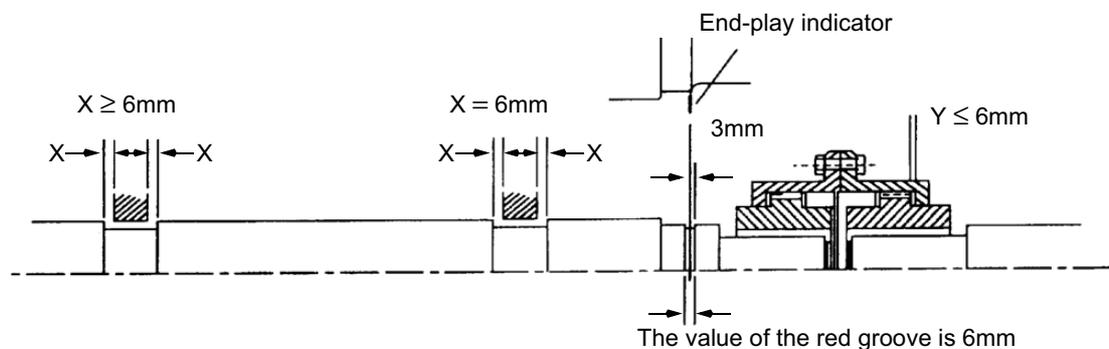

Fig. 6
- Unless otherwise specified, the designed end-play value X of the groove for TECO motors in general is within 6mm (0.236 in.) as illustrated in Fig. 6. In essence, the endplay indicator is adjusted to point at the center of the groove or the drive-end shaft shoulder; thus X equals to $6 \pm 1\text{mm}$ or so, and the endplay value (Y) of the couplings should equal or be smaller than 3mm (0.118 in.).